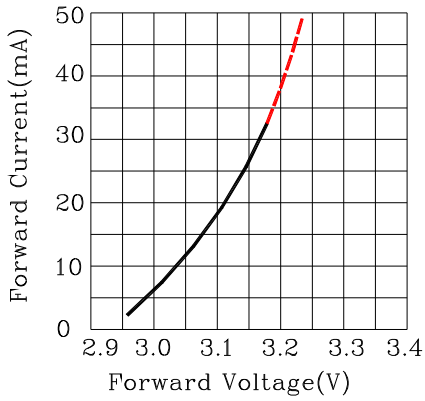

Fig.1 Forward Current vs.Forward Voltage
**● Typical Electro-Optical Characteristics Curves****Fig.1 Relative Intensity vs. Wavelength**